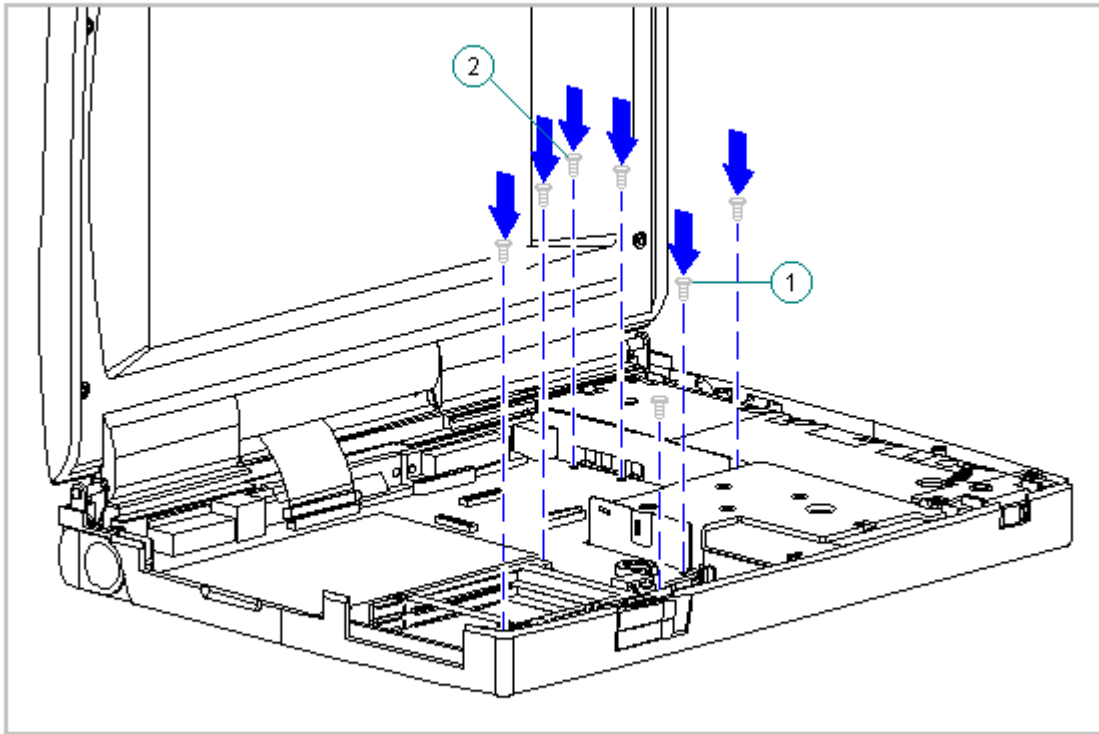

Figure 3-58. Replacing the Five System Board Screws and Two Battery Contact Screws (Models 400 and 410)
2. Install screws [1] and [2] on the system board before replacing the remaining system board and battery contact screws for Models 400 and 410 (Figure 3-58) and for Models 420 and 430 (Figure 3-59).